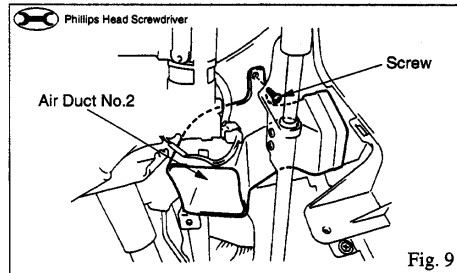

Fig. 9
- (8) Remove the air duct No.2. (1 Screw) (Fig. 9)